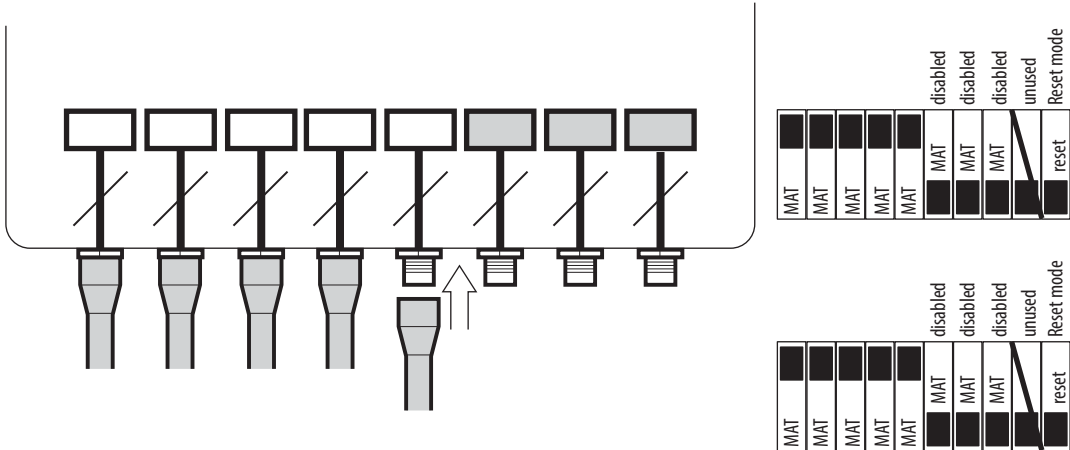

Figure 27
Up to eight sensor mats can be connected to the control unit by four pin, single keyway, micro quick-disconnect (QD) connectors. Figure 27 shows how the individual mats are connected to the control unit. If less than eight mats are to be connected, the other connections must be deactivated via internal dip switch selection. Open the cover to the control unit and set DIP switches as explained in next chapter.